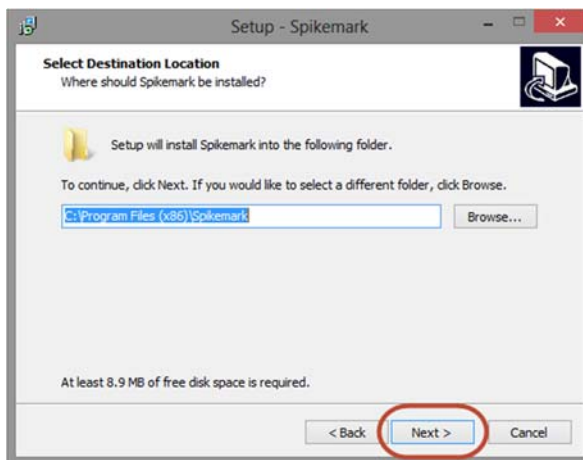

Figure 4
6. The **Select Destination Location** window will launch. You can either accept the default location (recommended) or choose a custom spot on your computer to install Spikemark. Click **Next** (Figure 4).